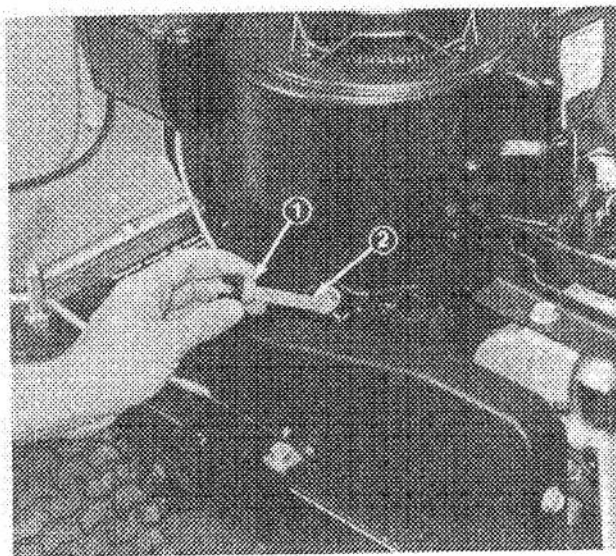

Figure 5
3. Remove dipstick plug from crankcase (Fig. 5).
4. Slowly, pour approximately 27 ounces (.80 l) of oil into crankcase (Fig. 5). The Tecumseh engine uses any high quality detergent oil having the American Petroleum Institute — API — “service classification” MS, SC, SD or SE. Oil viscosity — weight — must be selected according to anticipated ambient temperature.
mark on dipstick (Fig. 5). If level is low, add only enough oil to bring level up to FULL mark.